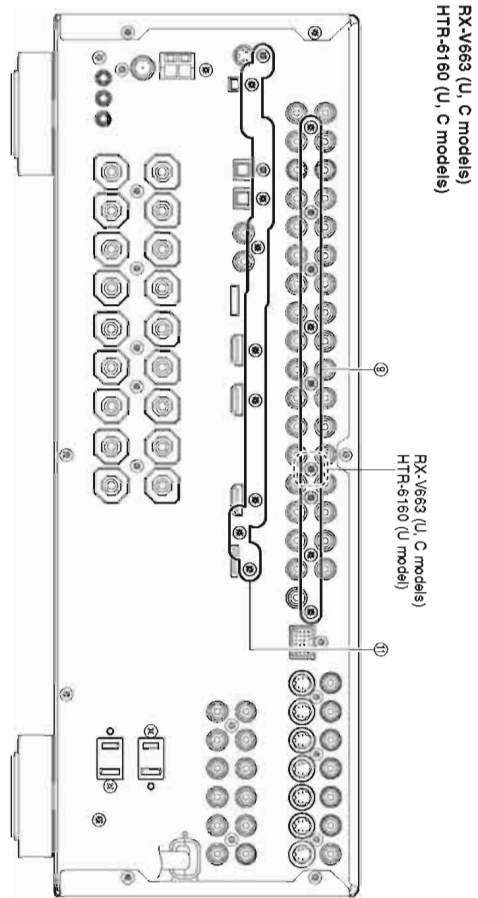

Fig. 3
- b. Remove 10 screws (RX-V663: U, C, R, T, K, A, G, E, F, L models / HTR-6160: U, F models) / 9 screws (HTR-6160: C model / DSP-AX763: B model) (⑩). (Fig. 3)
- b. ⑩のネジ9本を外します。(Fig. 3)
- b. Remove 9 screws (⑫). (Fig. 3)
- b. ⑫のネジ9本を外します。(Fig. 3)